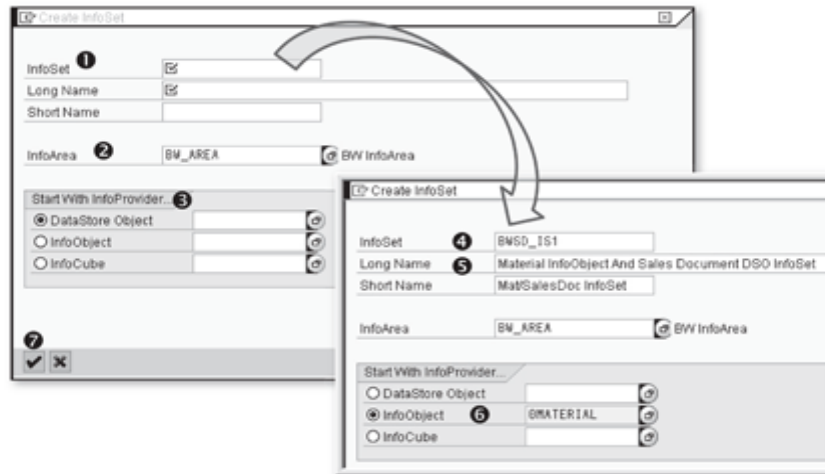

Figure 6.18 Create InfoSet: Initial Screen
Using the context menu of InfoArea BW_AREA, click on the Create InfoSet option (❸). The Create InfoSet box appears as shown in Figure 6.18.
InfoSets require a unique technical name and description as shown in ❶ of Figure 6.18. The technical name of the InfoArea BW_AREA in which the InfoSet would be grouped is displayed in the InfoArea field (❷). The Start with InfoProvider section (❸) offers three choices: DataStore Object, InfoObject, and InfoCube.